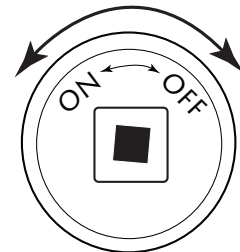

Fig. 6. Key Valve Face
1. Insert key into shut-off valve and secure into square end (see figs 6 & 7).
Low flame	<ol style="list-style-type: none"> 1. Ensure the base media is at least 1-inch in diameter and top media is no more than 1-inch over top of burner. 2. Ensure all shut-off valves and key valve is fully open. See page 7; figure 6 3. Check gas pressure.